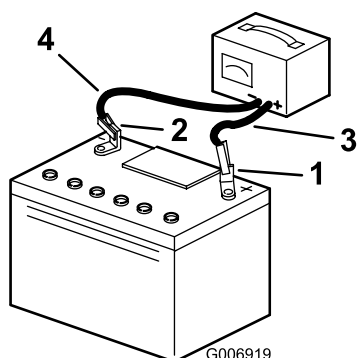

Figure 28
- Disconnect the charger leads from the battery posts (Figure 28).